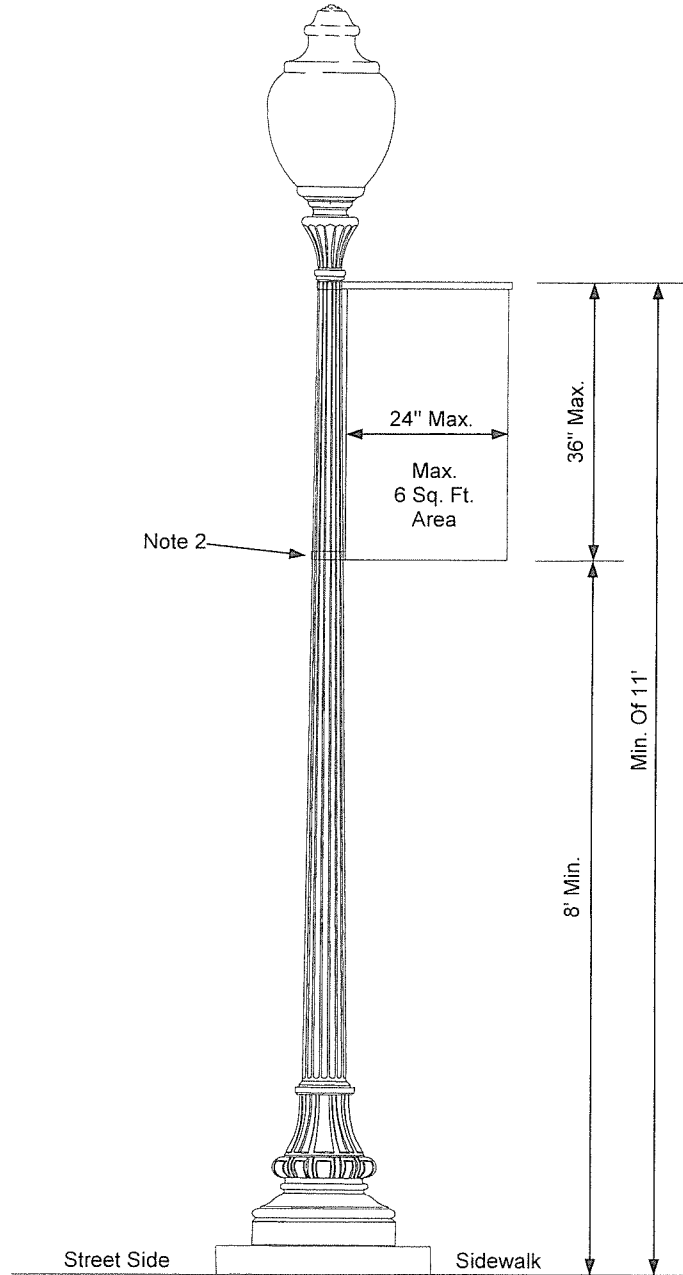

Figure 3
5. All flag and/or vertical banner installations on Oncor Electric Delivery decorative metal or historical style streetlight poles shall be installed per figure 3 and shall not exceed a total of 6 square feet in area. **Banners placed on decorative metal or historical poles shall be placed facing away from the street and over the sidewalk only. Banners shall be made of non-rigid, light weight cloth or silk material,** with only the lower corner of the banner connected to the pole. No support rod shall be used on the bottom of the banner so the outer corner will remain loose.